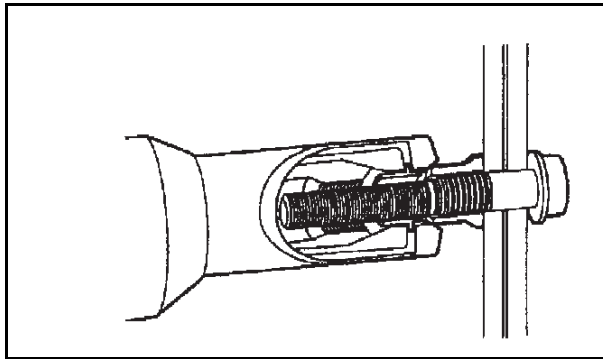

Figure 2.10 Place Installation Tool Over Fastener Pintail 01\_0020
3. Place the Huck installation tool over the HP 8 fastener pintail (See Figure 2.10)